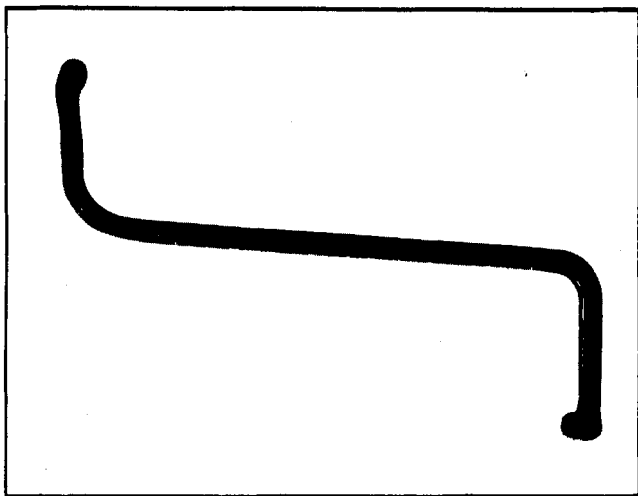

Fig. 6-48-Front Door Hinge Tool J-22810 - "A, B, C, E and F" Styles
3. For removal or adjustment of all front door hinge to body attaching bolts, use tool J-22810 - 1/2" wrench (or equivalent) (Figure 6-48).